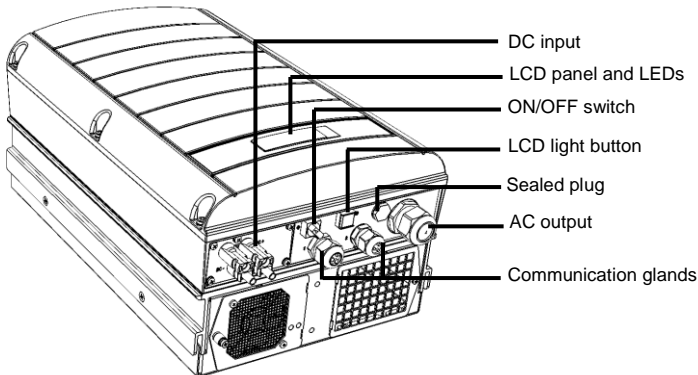

Figure 3: Inverter connectors (three phase example)
- 4 Open the AC cable gland and insert the cable through the gland (see Figure 3).